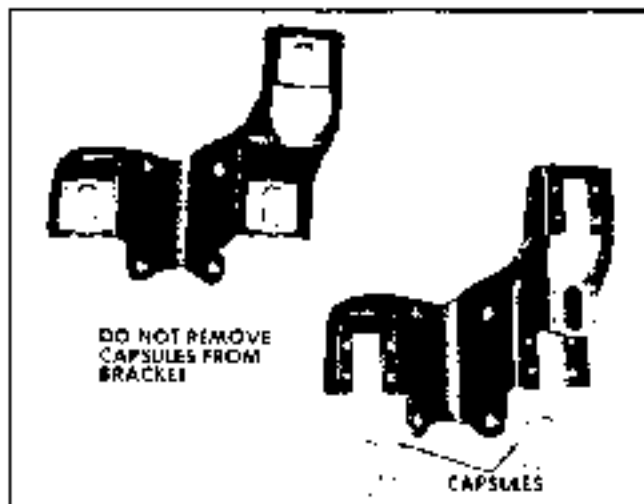

Fig. 9-14 Mounting Bracket Assembly
1. Remove four 5/16" bolts holding column bracket. Set bracket aside to protect breakaway capsules (Fig. 9-14).